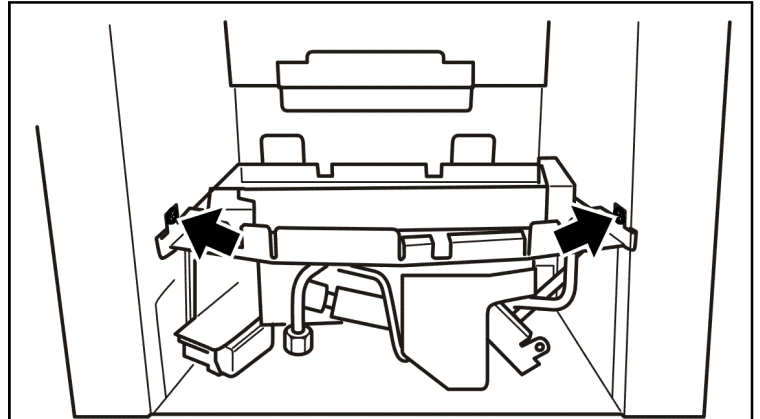

Figure 9. Burner attachment points
2. Detach the burner unit from the convector box by removing two screws (See figure 9). Lift the burner unit clear.